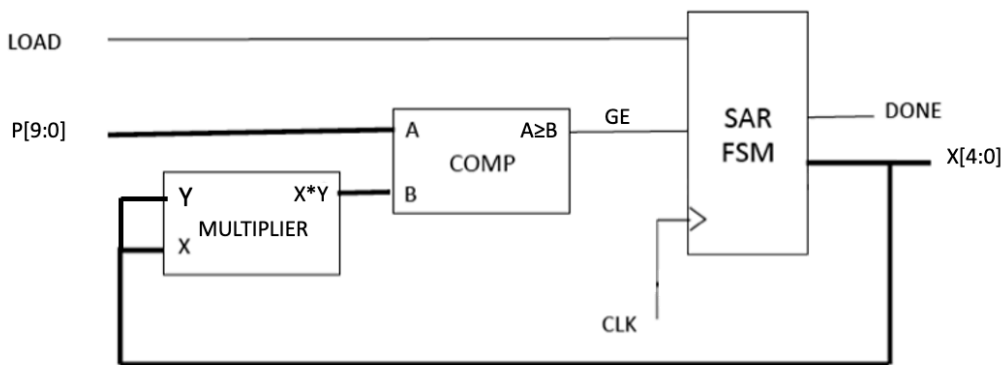

Figure 3.1
3. *Figure 3.1* shows a digital circuit that computes the approximate square root of a 10-bit number $P[9:0]$ and produces a 5-bit answer $X[4:0]$. The circuit consists of a multiplier circuit, a digital comparator and a finite state machine that implements the successive approximation algorithm. The digital comparator output GE is high if the value at its input A is larger than or equal to its input B . The FSM is controlled by the clock signal CLK . It starts the computation when $LOAD$ goes from low to high and the $DONE$ signal then goes low until the computation is completed and $X[4:0]$ contains the valid result.